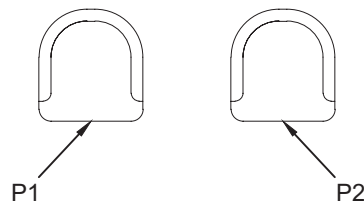

Figure 3-11
Step 26. Use the **COPY** command, combined with **Osnap-Midpoint**, to copy the chair you have just drawn (Figure 3-11), as described next:
P1→ (Figure 3-11) (Turn **SNAP** off as needed)